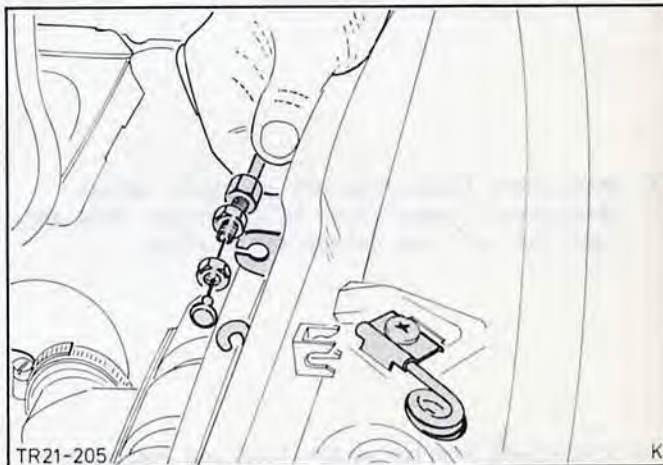

Fig.13. Remove hood release cable.
7. Disconnect the hood release cable at the leg spring, Fig.13, and unscrew from the radiator grille panel.